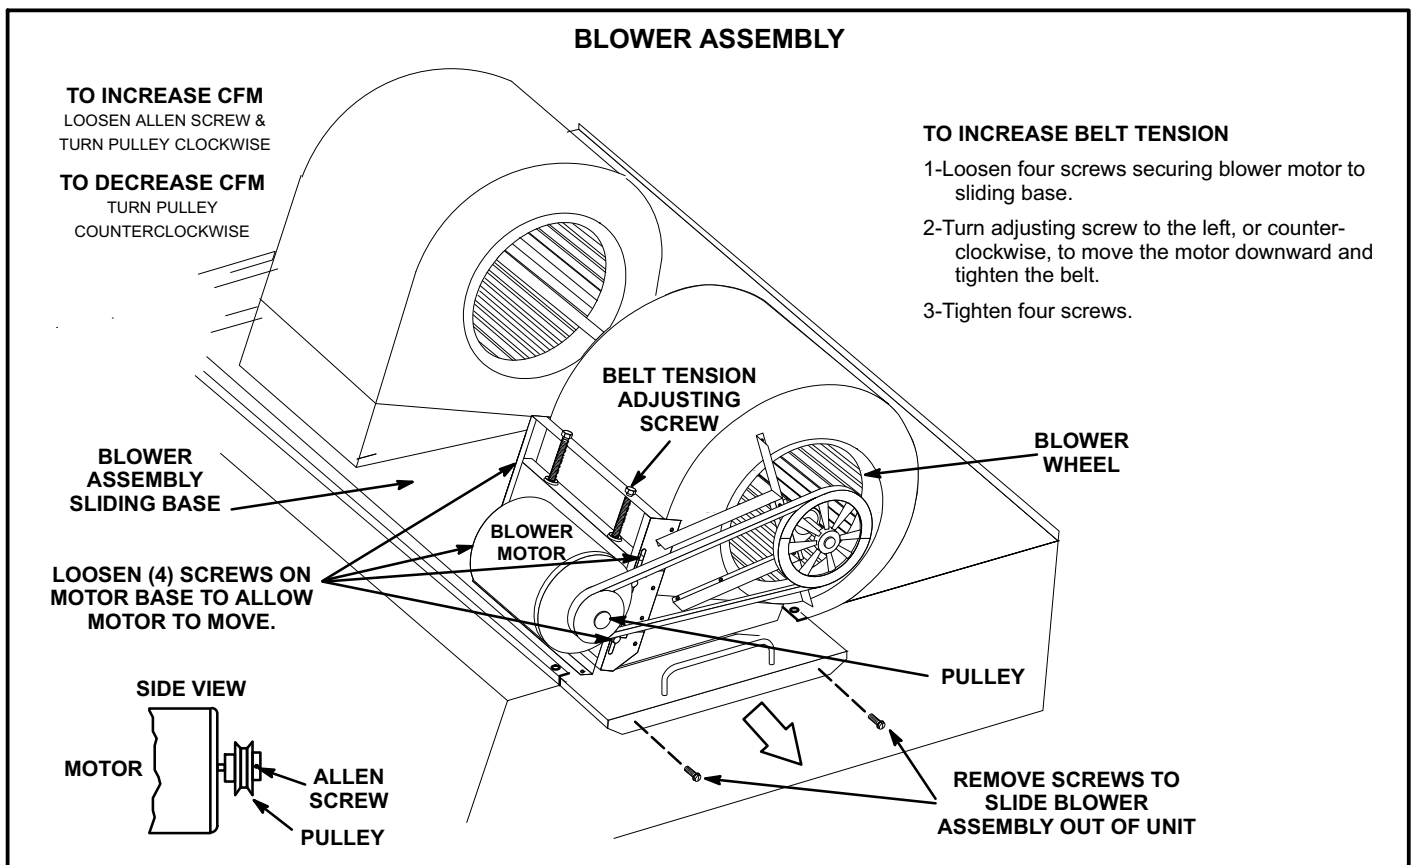

FIGURE 7
The blower compartment is located between the evaporator coil and the compressor / control section on the opposite side of the condenser coil. The blower assembly is accessed by removing the screws on either side of the sliding base. The base pulls out as shown in figure 7.
The blower assembly is secured to a sliding base which allows the entire assembly to be pulled out of the unit. See figure 7.
- 5- The RPM can be adjusted at the motor pulley. Loosen Allen screw and turn adjustable pulley clockwise to increase RPM. Turn counterclockwise to decrease RPM. See figure 7. Tighten Allen screw after adjustment.
- 1- Loosen four bolts securing motor base to mounting frame. See figure 7.